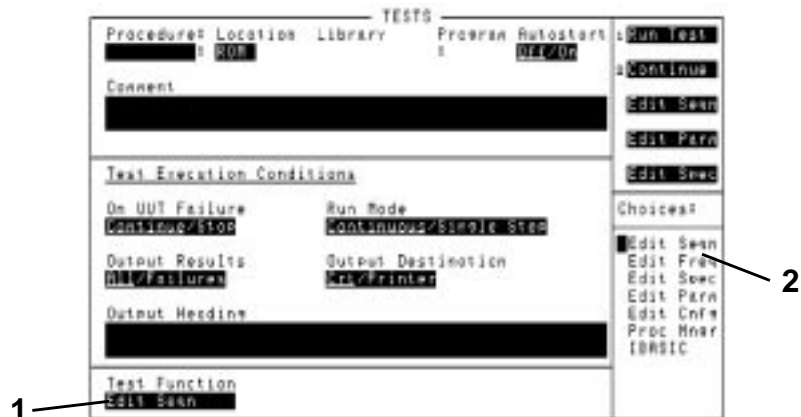

Figure 8-4 Test Procedure and Test Library Files
- 1 Select the front-panel **TESTS** key, and then select the **Test Function** field shown by item (1), see Figure 8-4 on page 8-14.
- 2 Select **Proc Mngr** shown by item (2), see Figure 8-4 on page 8-14.